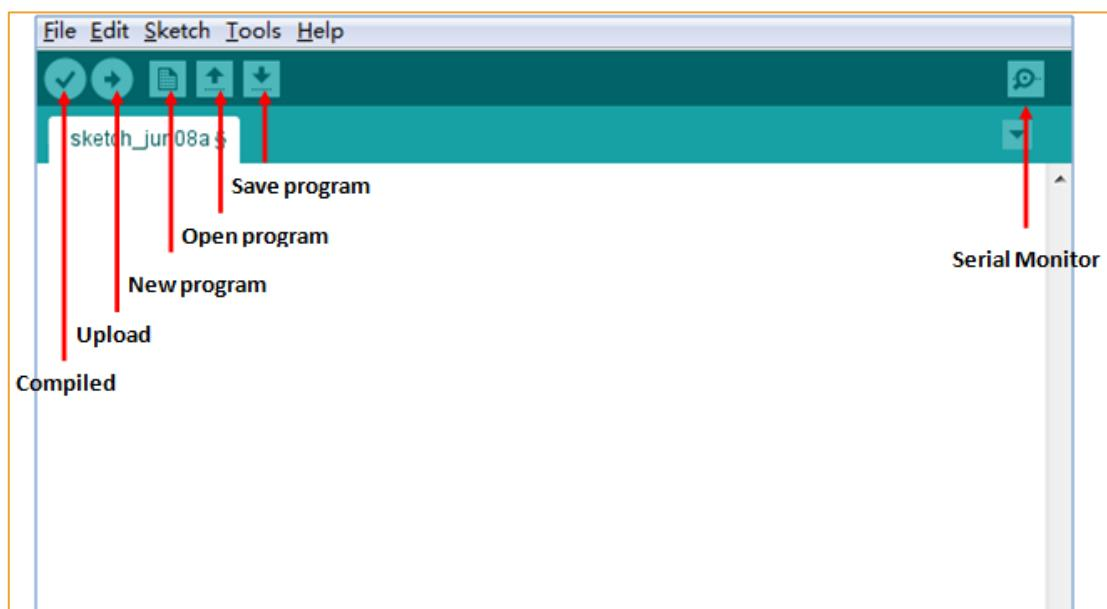

Figure 2-2-12 Arduino IDE Interface
- 1、 The first thing you can see is the interface of the following figure. The functions of the toolbar buttons are "Compile" - "Upload" - "New Program" - "Open Program" - "Save Program" - "Serial Monitor" , as shown in Figure 2-2-12.